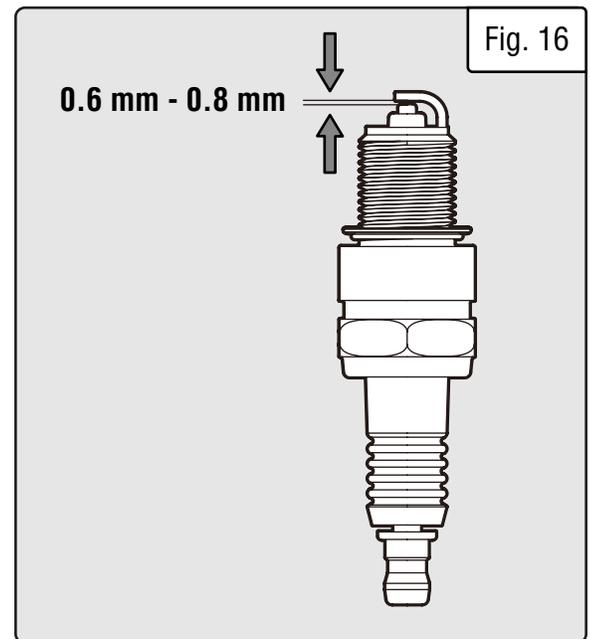

Fig. 16
6. Measure the plug gap with a wire gauge (Fig. 16). The gap should be 0.6 mm - 0.8 mm. Carefully adjust the gap if necessary.